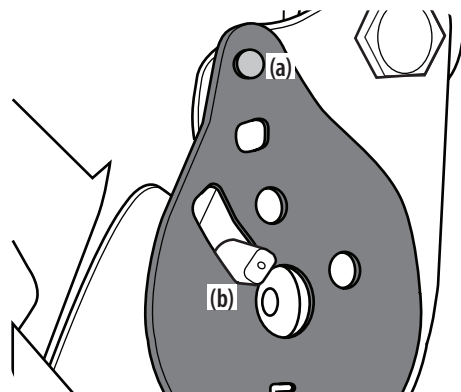

Figure 2-11
6. Tilt the seat forward into the full forward position. Replace the recliner plate with the clinch-stud (a) and the recliner pin (b) passing through the recliner plate in the locations shown in Figure 2-11.